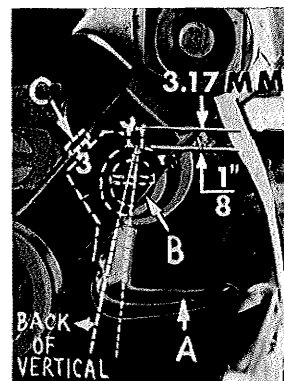

Fig. 8
Insert upper looper (A, Fig. 8) in its holder. Screw (B) holds the upper looper in its holder and permits it to be pushed in or out, or turned around its shank. Insert upper looper holder into upper looper shaft, if it is not already in place. Screw (C, Fig. 8) in clamp holds the upper looper holder in the shaft. Locate upper looper in its holder so that the shank extends $1/8$ inch (3.17 mm) beyond holder (Fig. 8), for Styles 39500 RG and RH; $1/16$ to $3/32$ inch (1.59 to 2.38 mm) for Style 39500 QW.
When the upper looper is at the right end of its stroke, upper looper holder should be set to position upper looper shank slightly back of vertical (Fig. 8).